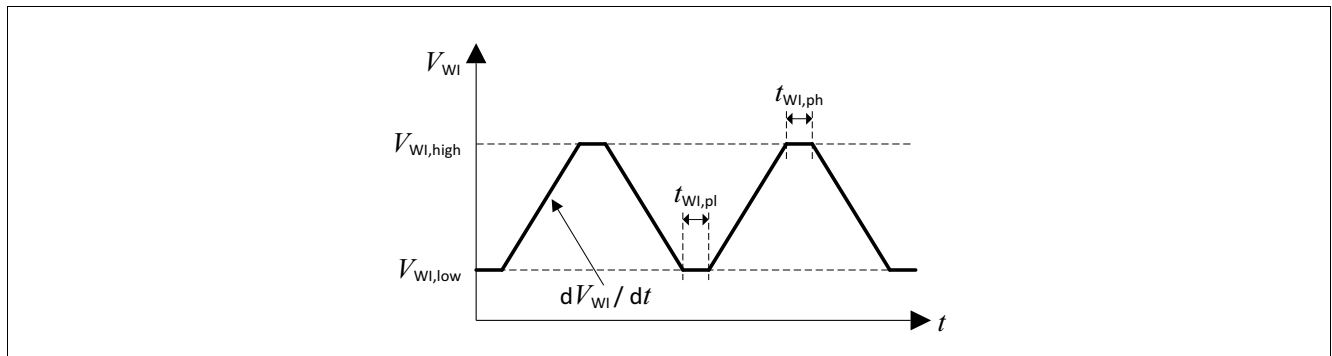

Figure 9 Test pulses watchdog input Wl
The watchdog is triggered by a falling edge at the watchdog input pin “Wl”. The amplitude and slope of this signal has to comply with the specification (Table “Watchdog input Wl” on Page 26). For details regarding test pulses, see Figure 9 “Test pulses watchdog input Wl” on Page 25.
1) For details on applied test pulse, see Figure 9